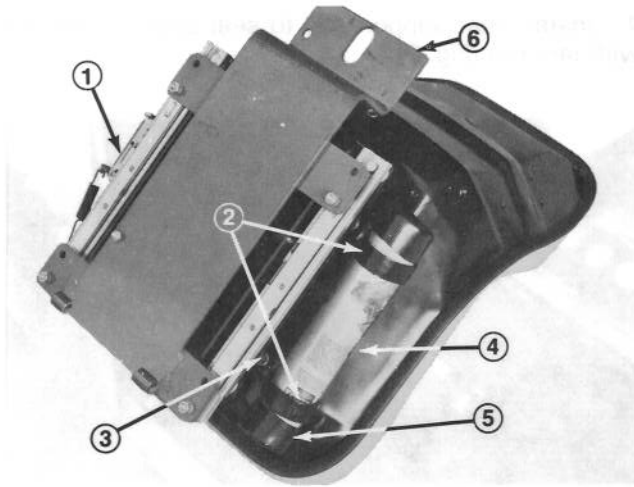

Figure 11
6. Mount seat suspension assembly to (4) cap-screws on seat bottom and secure with (4) lock-washers, flatwashers and nuts (Fig. 11).
7. Loosely secure (2) R-clamps to right side of seat bottom with (2) capscrews supplied in kit (Fig. 11). Install manual tube into R-clamps and tighten capscrews (Fig. 11).
8. Mount seat support over four threaded studs at the bottom of seat suspension assembly and secure in place with lockwashers and nuts (Fig. 11).